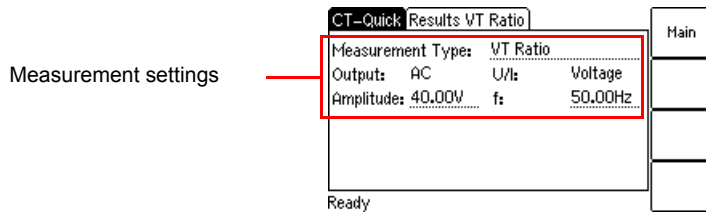

Figure 10-13: **CT-Quick** test card with settings for VT ratio measurement
3. Select the **VT Ratio** measurement type. Set the amplitude to the maximum output voltage of 40V and the frequency to the mains frequency. Refer to Figure 10-13.